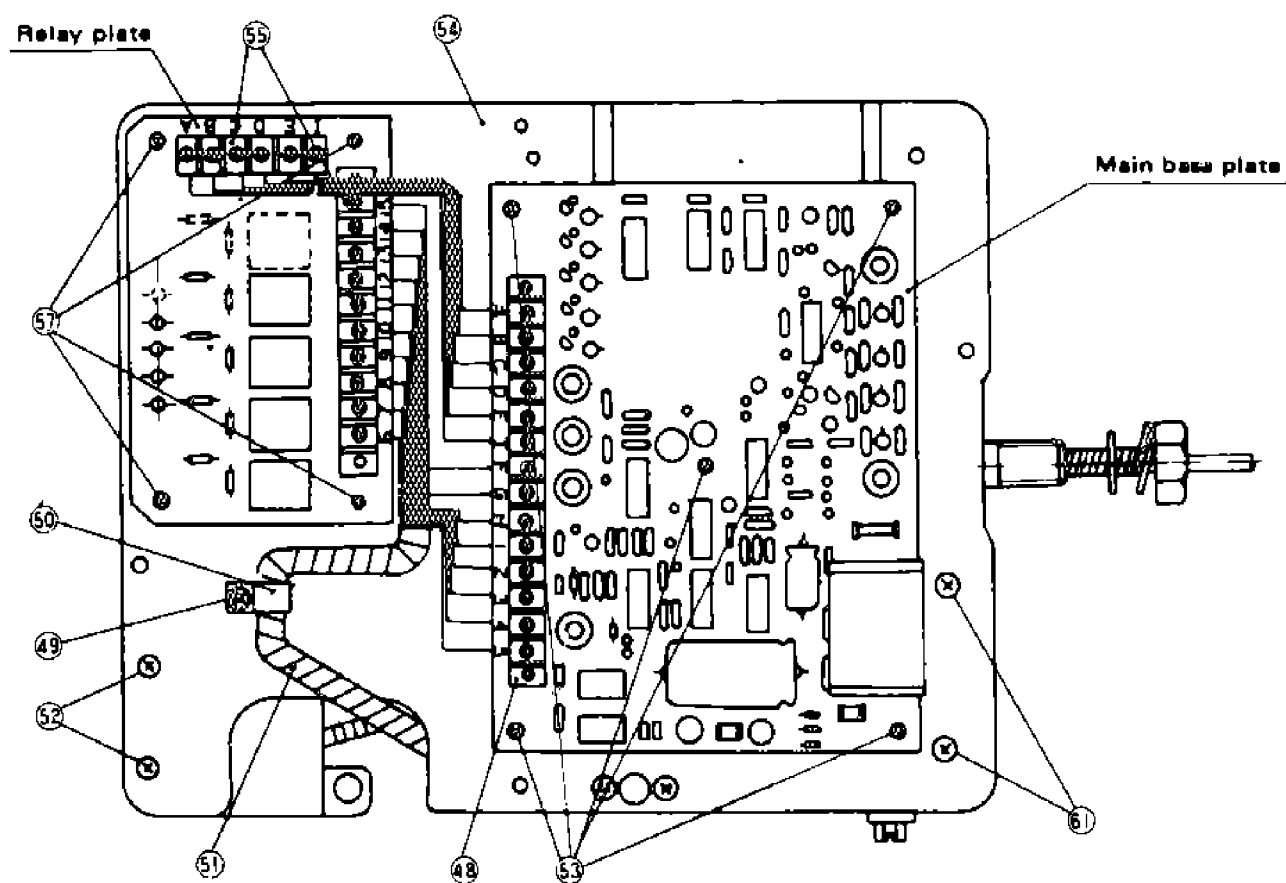

Fig. 4 Internal device assembly
(2) Remove the internal device assembly. Loosen four hexagonal nuts (11) and screws (46) and remove the internal device assembly from the main body (1) and turn it back. Then it looks as shown in Fig. 4.
- Adjust the volume setter as shown in Fig. 4 in accordance with Article d, (2).
- Remove the lead wires (3 pcs, F. G. H.) which are laid from the volume setter from the terminal (48) (14P) on the terminal strip of the main base plate and measure resistance between G and H of the lead wires.
- From the state of the volume setter as shown in Fig. 4, loosen screw (49), remove power source plug (50), remove the spiral tube (51) from the wires. Then remove two screw bolts (52) and the volume setter can be removed from the base (54).
- After replacing the volume setter with a new one, inspect and adjust it in accordance with Articles c. (1). ① and c. (1). ②
② Main base plate
(1) Replacing standards
- In case the volume setter shows the phenomena as stated in Article d, (2). ● Replacing standards and yet it has no trouble or the same phenomena take place after replacing the volume setter.
(2) Replacing points
- Adjust the volume setter as shown in Fig. 4 in accordance with Article d, (1).
- Remove the wires (14 pcs Nos A ~ H, 1 ~ 5) from the terminal strip (48) on the main base plate.
- Remove 5 screws (53) to remove the base (54) from the main base plate, so replace it with new one.
③ Relay base
- Adjust it as shown in Fig. 4 in accordance with Article d, (1).
- Remove the wires (14 pcs No. A ~ E, F ~ H, I, 1 ~ 5) from the terminal strip (55) on the relay base plate.
- Loosen four screws (57), and the relay base plate can be removed from the base (54). So replace the relay base plate with a new one.
- Take out the internal assembly as stated in Article d, (1) and turn it inside out, which is shown in Fig. 4.
- Loosen two screw bolts (61) to remove the feeler tube – element and replace it with new one.
- After replacement, inspect and adjust it in accordance with Article c. (2)